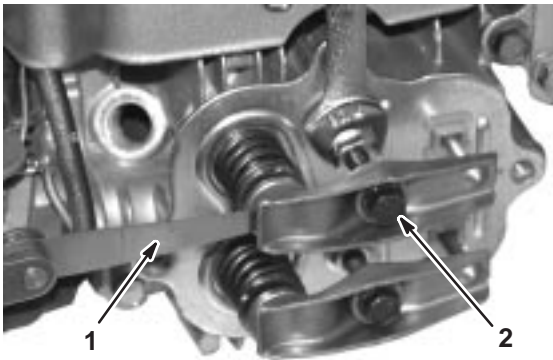

Fig. 63 – Adjusting Valve Clearance
- If not, adjust by turning rocker arm screw until correct clearance is obtained, Fig. 63.